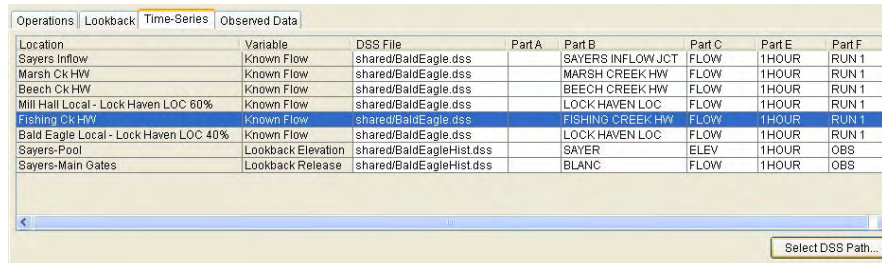

Figure 13.7 Alternative Editor--Time-Series Tab
1. In the **Alternative Editor**, select the **Time-Series** tab (Figure 13.7).